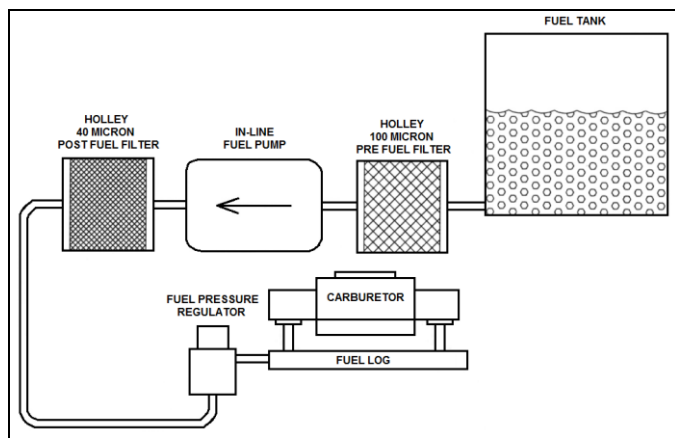

Figure 1
2. The standard regulator, provided with the 12-802-1 pump, has two discharge (out) ports (see Figure 1). In dual carburetor installations, one port can feed each carburetor. With single carbs, plug one port and feed the carburetor from the other. Either may be used. Installations should determine choice. See Figure 1.